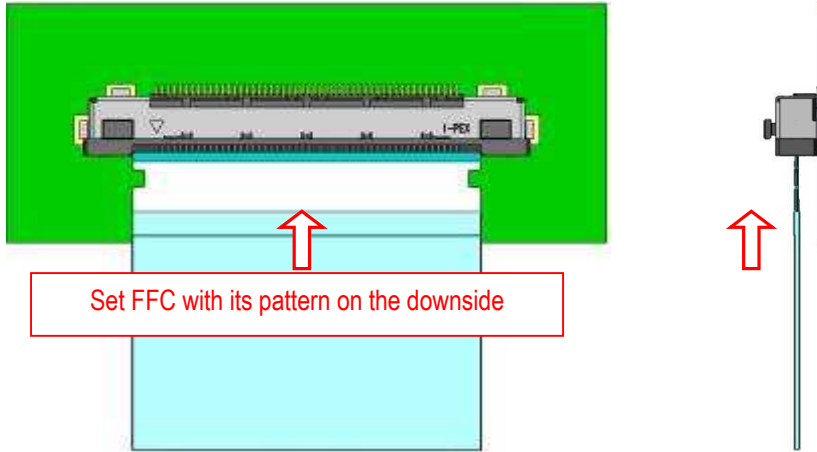

Fig.2-1 FFC inserting method 1
① Please set FFC to the connector horizontally as shown in Fig.2-1.